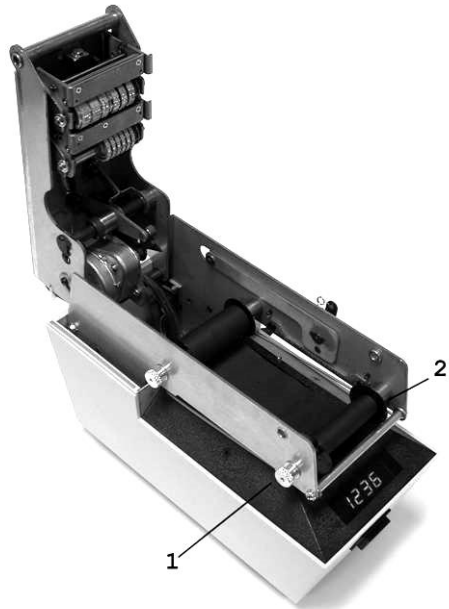

Figure 8
3. Pull the front spool plunger knob (Figure 8, Number 1) away from unit. While holding the knob, slide the ribbon to the left and out.
6. Pull the front plunger knob out and position the new ribbon as shown in Figure 8. Align the spool with the posts on the ribbon spindle shaft and the spool plunger (Figure 8, Numbers 2 and 1).